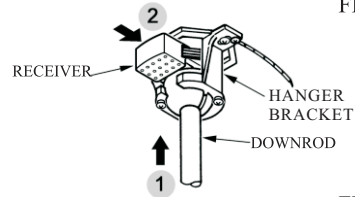

FIG.4
2. Carefully lift the fan and seat the down rod ball assembly on the hanger bracket. Be sure the groove in the ball is lined up with tab on the hanger bracket. Do not pinch wires between the ball and down rod assembly and hanger bracket (See fig.4)